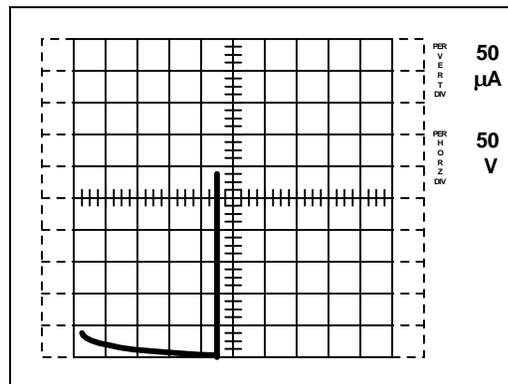

Figure 2. Drain-source breakdown voltage
9. Connect the device using the LEFT/RIGHT switch. Increase the collector supply voltage using the VARIABLE COLLECTOR SUPPLY control until the current (as indicated by the trace on the screen) reaches 250 microA. (See Figure 2.) Read  $BV_{DSS}$  from the screen.